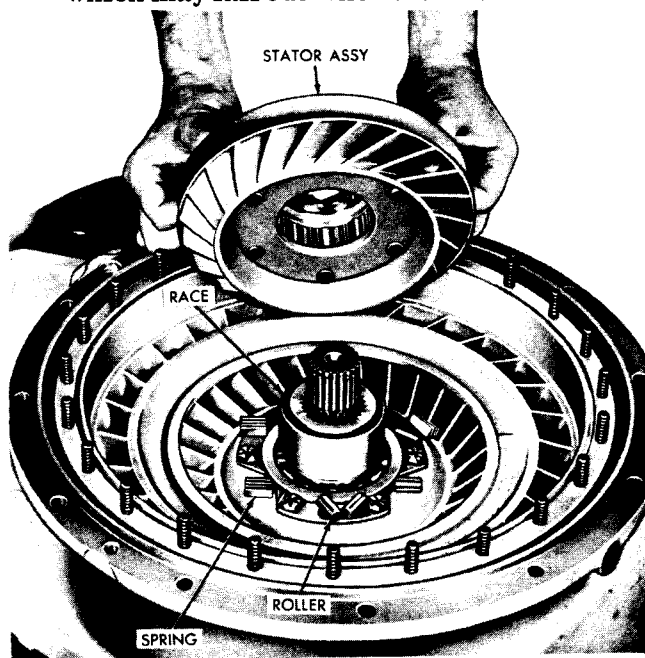

Fig. V-11. Removing torque converter stator assembly
(2) Remove the torque converter stator assembly and freewheel roller race (fig. V-11). Refer to sect. VI, para 14 for rebuild of the stator assembly.